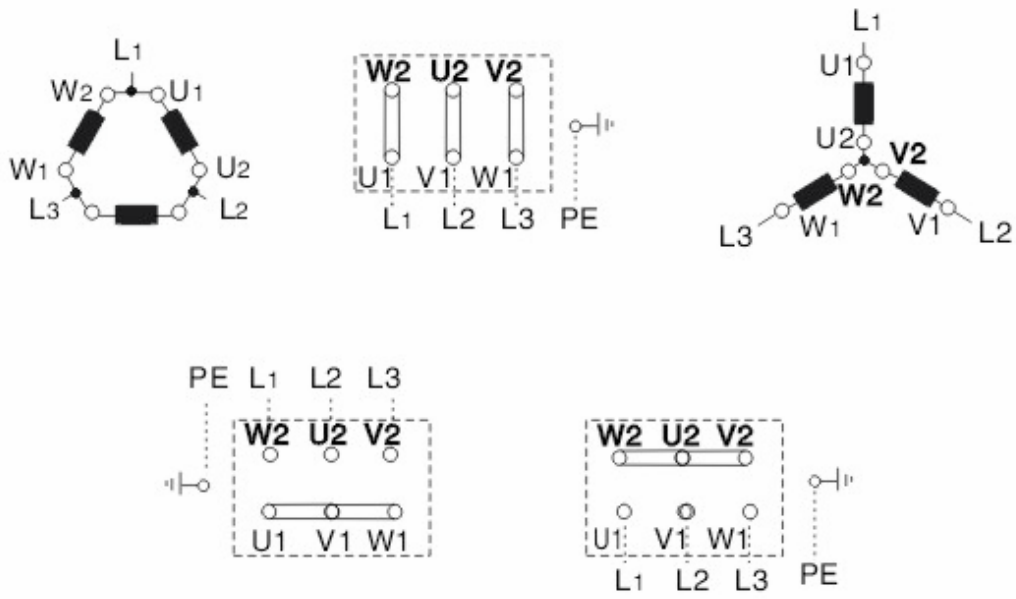

Figure 1: Connection diagram
- After the electrical connection or on a provisional connection, check rotation direction with the shaft not mechanically engaged. The rotation direction of the motors can be modified for the single-phase version, by positioning the jumpers according to the indications of the connection shown in fig 1.
Direction of rotation is clockwise when viewing the shaft face at the machine drive end, when the line phase sequence L1, L2, L3 is connected to the terminals as shown in the figure 1.